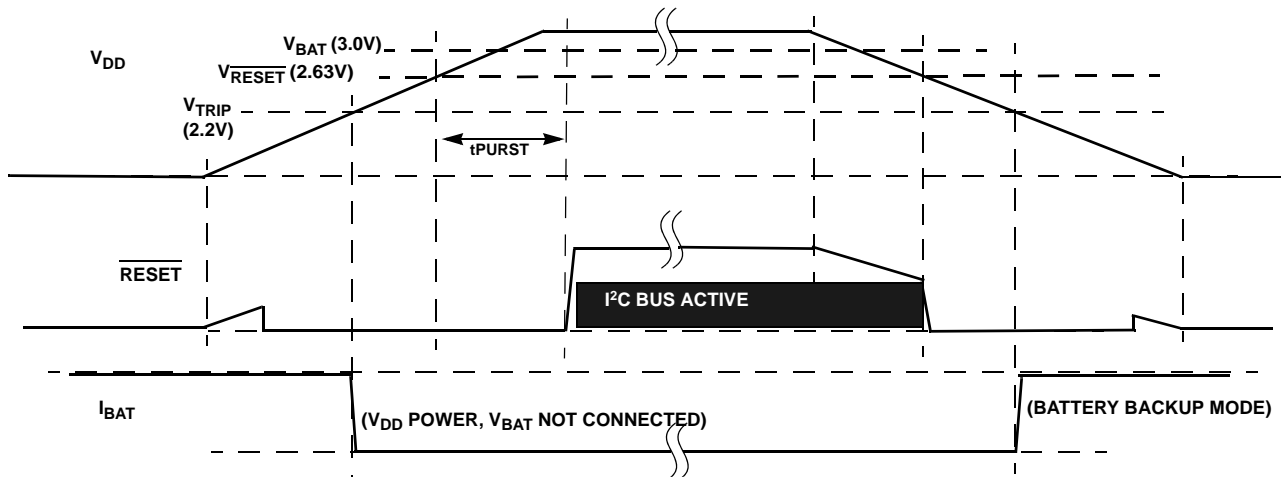

FIGURE 29. EXAMPLE RESET OPERATION IN MODE A OR C
- Mode A - In this mode, selection bits indicate a low VDD switchover combined with I²C operation in battery backup mode. In actuality the VDD will go below V_{RESET} before switching to battery backup, which will disable I²C ANYTIME the device goes into battery backup mode. Regardless of the battery voltage, the I²C will work down to the V_{RESET} voltage (see Figure 29).
- Mode C - In this mode, the selection bits indicate a low VDD switchover combined with no communications in battery backup. Operation is actually identical to Mode A with I²C communications down to V_{DD} = V_{RESET}, then no communications (see Figure 29).